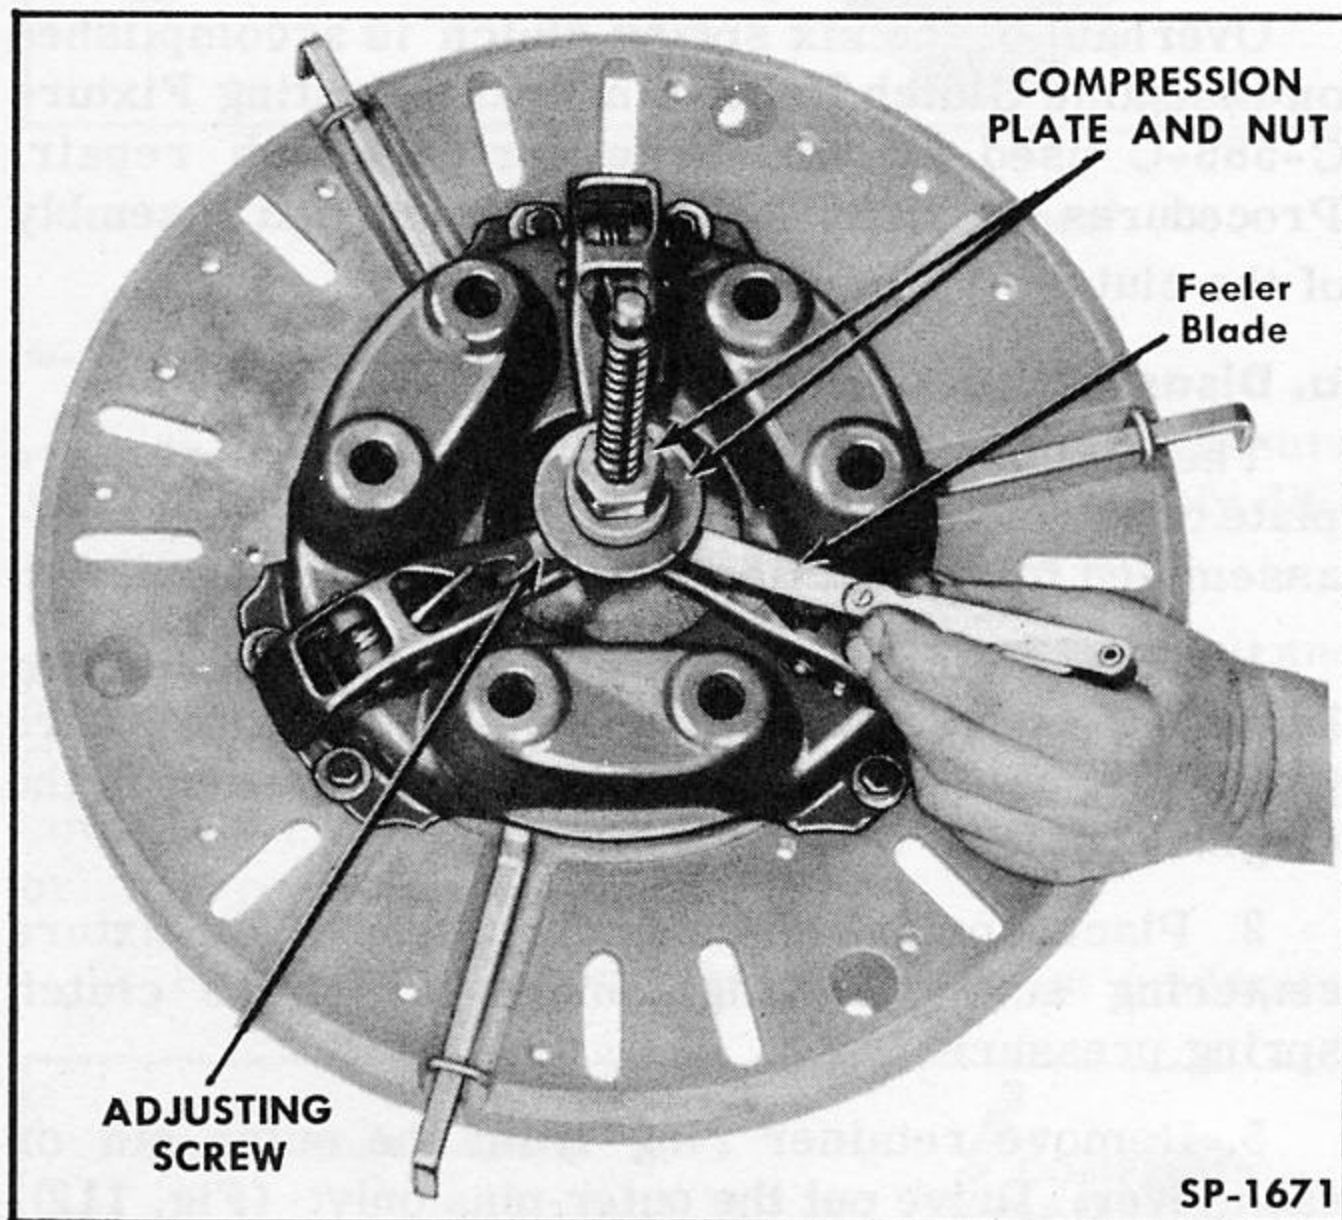

Fig. 113—Adjusting Levers on Six Spring Clutch
7. Adjust the three lever adjusting screws until a .002 feeler blade has a slight drag between the compression plate and each adjusting screw (Fig. 113).